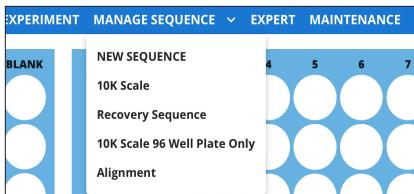

Fig. 58—The Manage Sequence menu lists the existing sequences.
1. To create a measurement sequence, select the *Manage Sequence* menu. A list of the existing sequences displays (Fig. 58), and you can open and edit any existing sequence or select *New Sequence* to create a new one.